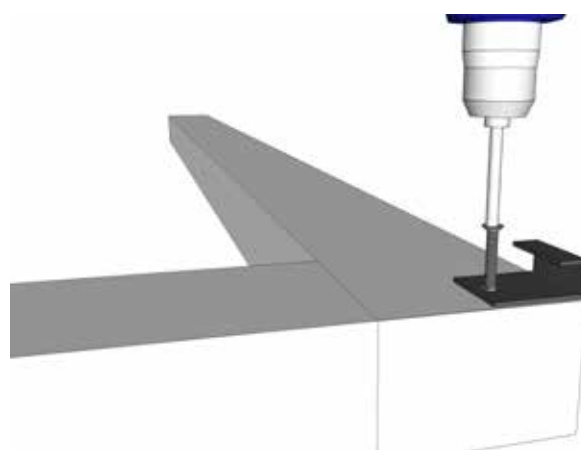

Figure 1
- 2 After locating the fastener, pre-drill the hole and install the first fastener (HLPM-037) as shown in Figure 1: